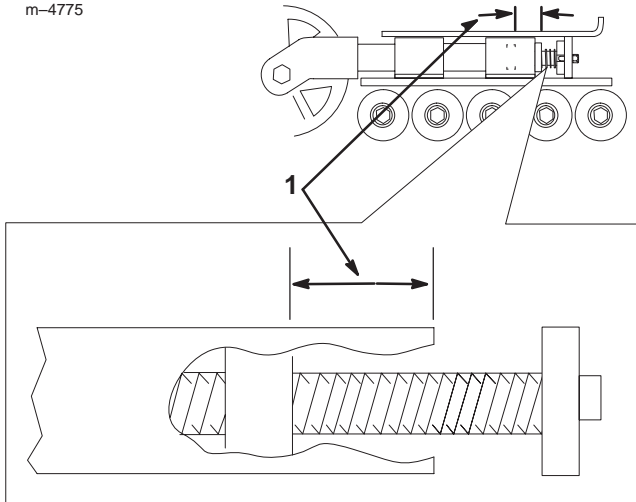

Figure 36
- Turn the tensioning screw counter-clockwise until the distance between the tension nut and the back of the fork tube (Fig. 36) is 2 3/4 in. (7 cm.).